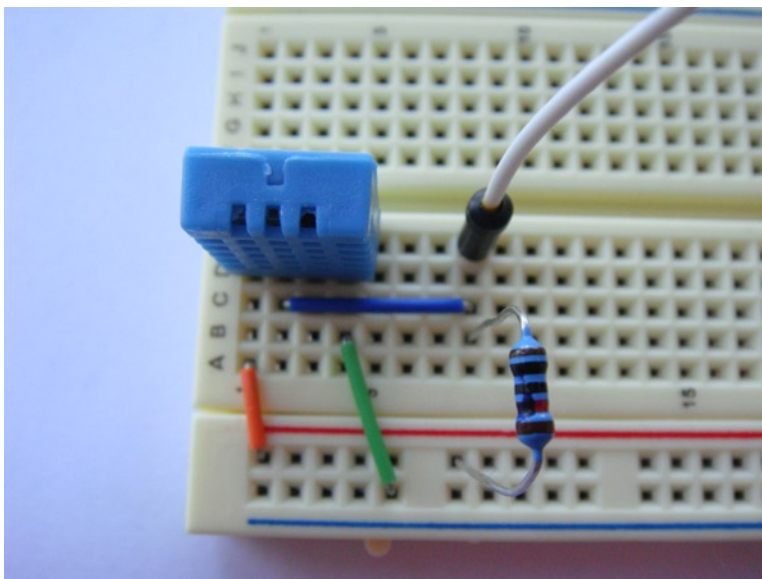

Figure 3-21. *All components installed and connected to your Pi*
6. Lastly, connect a hook-up wire from in front of the jumper wire on pin 2. This will connect to physical pin P1-11 on the Raspberry Pi. See Figure 3-21 for the final working breadboard.